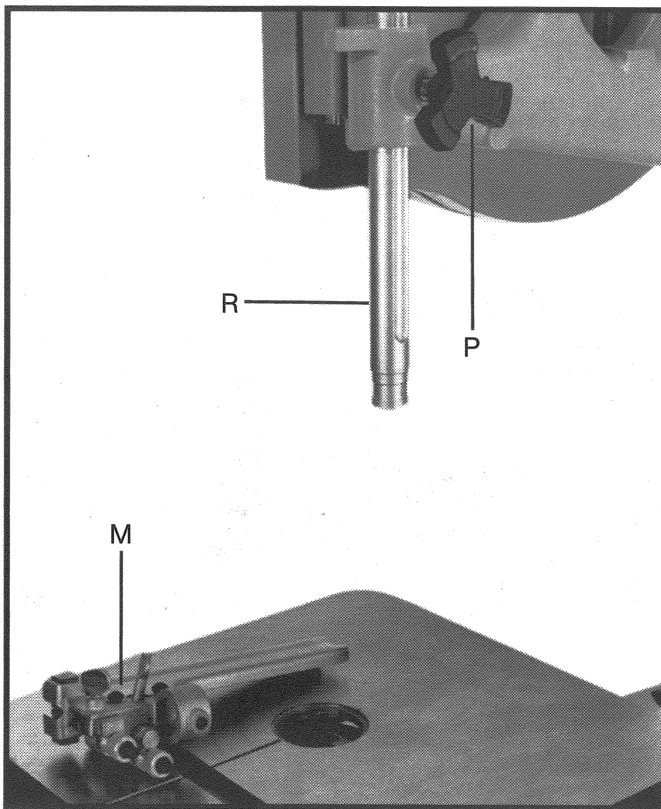

Fig. 10
9. Loosen the clamp knob (P) and remove the guide post (R) Fig. 10.